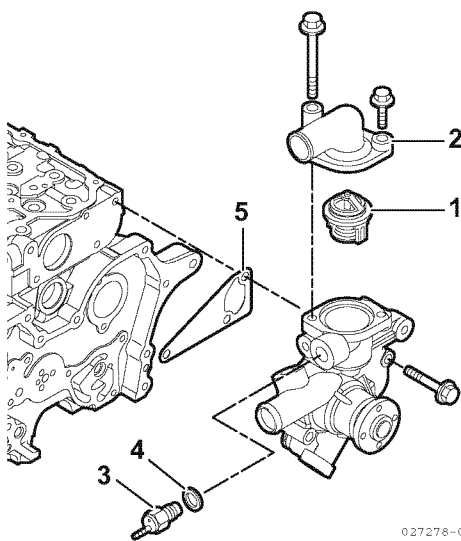

Figure 8-9
1. Install the thermostat (**Figure 8-9, (1)**).
2. Install the thermostat cover (**Figure 8-9, (2)**). Tighten the thermostat cover bolts.
3. Install the temperature switch (**Figure 8-9, (3)**) and a new gasket (**Figure 8-9, (4)**).
4. Position the engine coolant pump on the engine and install a new gasket (**Figure 8-9, (5)**).